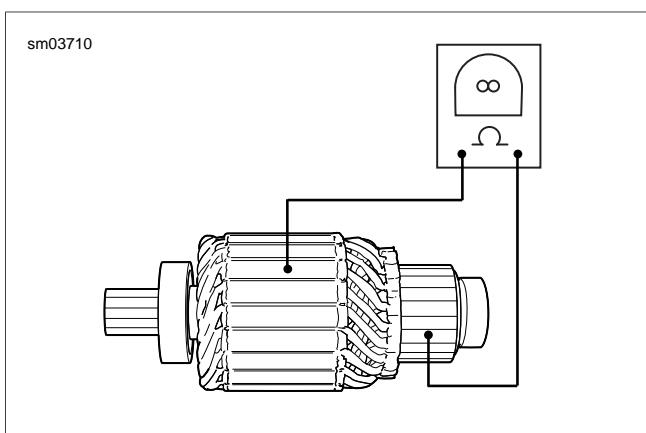

Figure 3-11. Grounded Armature Test
- See Figure 3-11. Check for a GROUNDED ARMATURE with an ohmmeter or continuity tester.